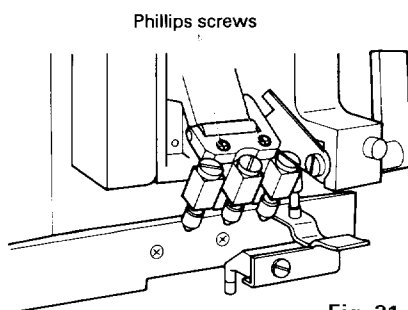
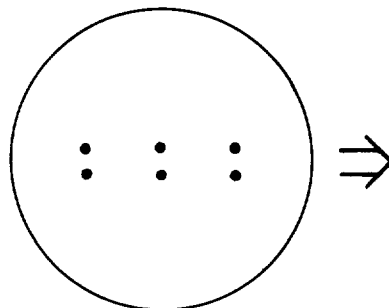

Fig. 21
Fig. 22
- Mark the lens at 0° firstly. Then, rotate the lens by 180° and mark it secondly. If the both marks do not overlap (Fig. 22), loosen the two Phillips screws which hold the marker (Fig. 21), and adjust the marker position, so that the marker nibs drop between the marks. (Fig. 23).